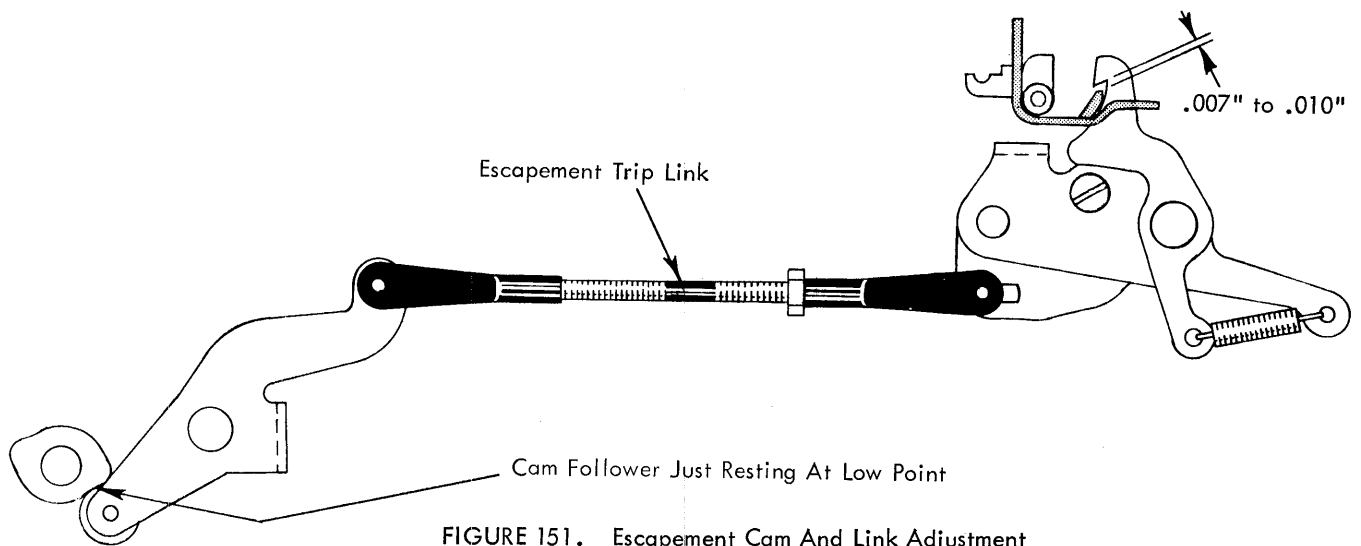

FIGURE 151. Escapement Cam And Link Adjustment
6. Escapement Cam - Adjust the cam by rotating it on the filter shaft so that the cam follower roller just reaches the low point of the cam at the rest position (Fig. 151).
7. Escapement Trip Link - Adjust the trip link so that a clearance of .007" to .010" exists between the torque bar lug and the hook of the escapement trigger in the rest position (Fig. 151).